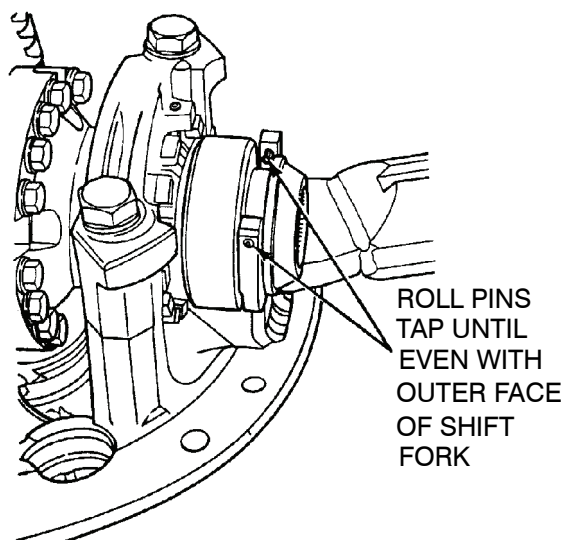

Figure 81. Sliding Shift Collar.
- (1) Install the differential lock sliding shift collar and tap the two retainer roll pins until they are level with the outer face of the shift fork. Release the differential lock if it is manually engaged. Figure 81.